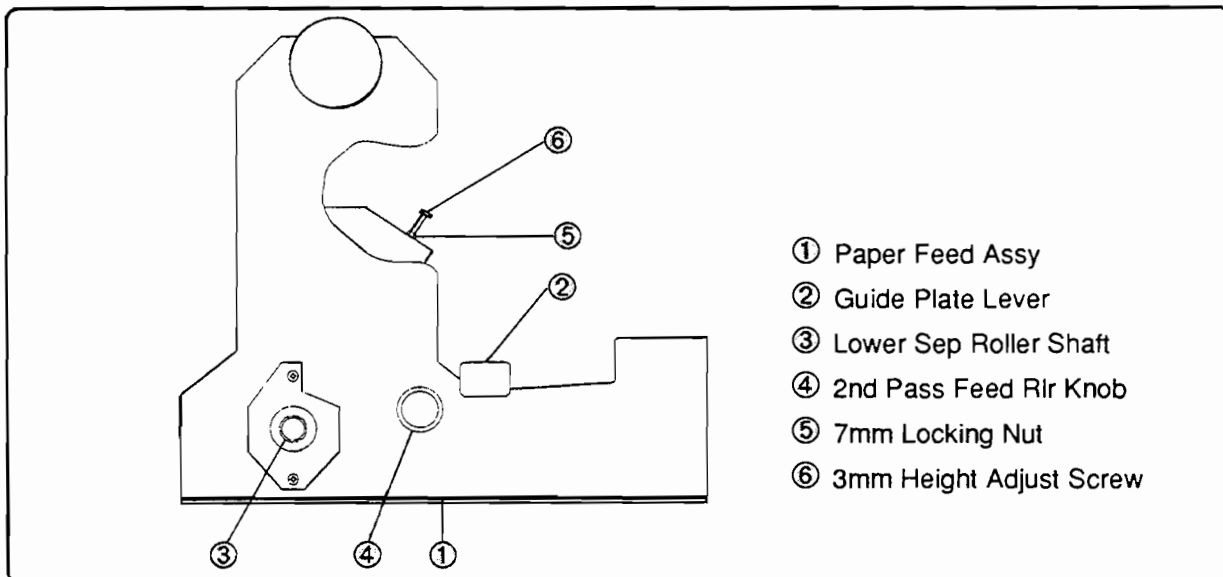

Figure 6-163. Duplex Separation Rollers Clearance Adjustment
5. Turn the lower separation roller shaft and the knob of the second pass feed roller clockwise to advance the paper until the leading edge emerges from the second pass feed roller (see Figure 6-163, items 3 & 4).
Raising the guide plate lever will allow easy viewing of the second pass feed roller and the leading edge of the paper (see Figure 6-163, item 2).
9. Attach the torque gauge to the lower separation roller shaft (Figure 6-163, item 3).
- a. Loosen the 7mm locking nut (Figure 6-163, item 5).